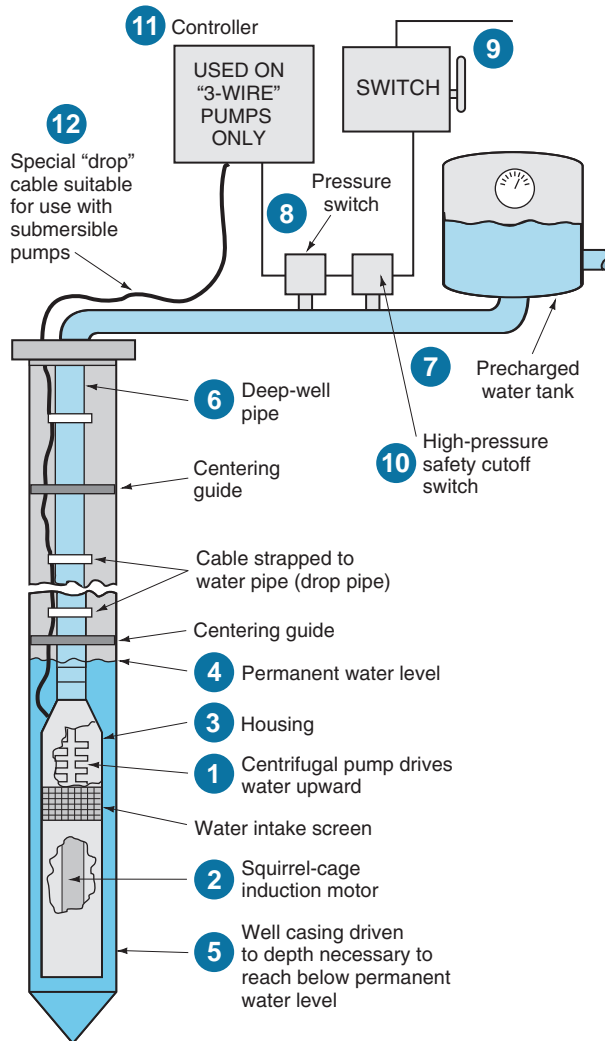
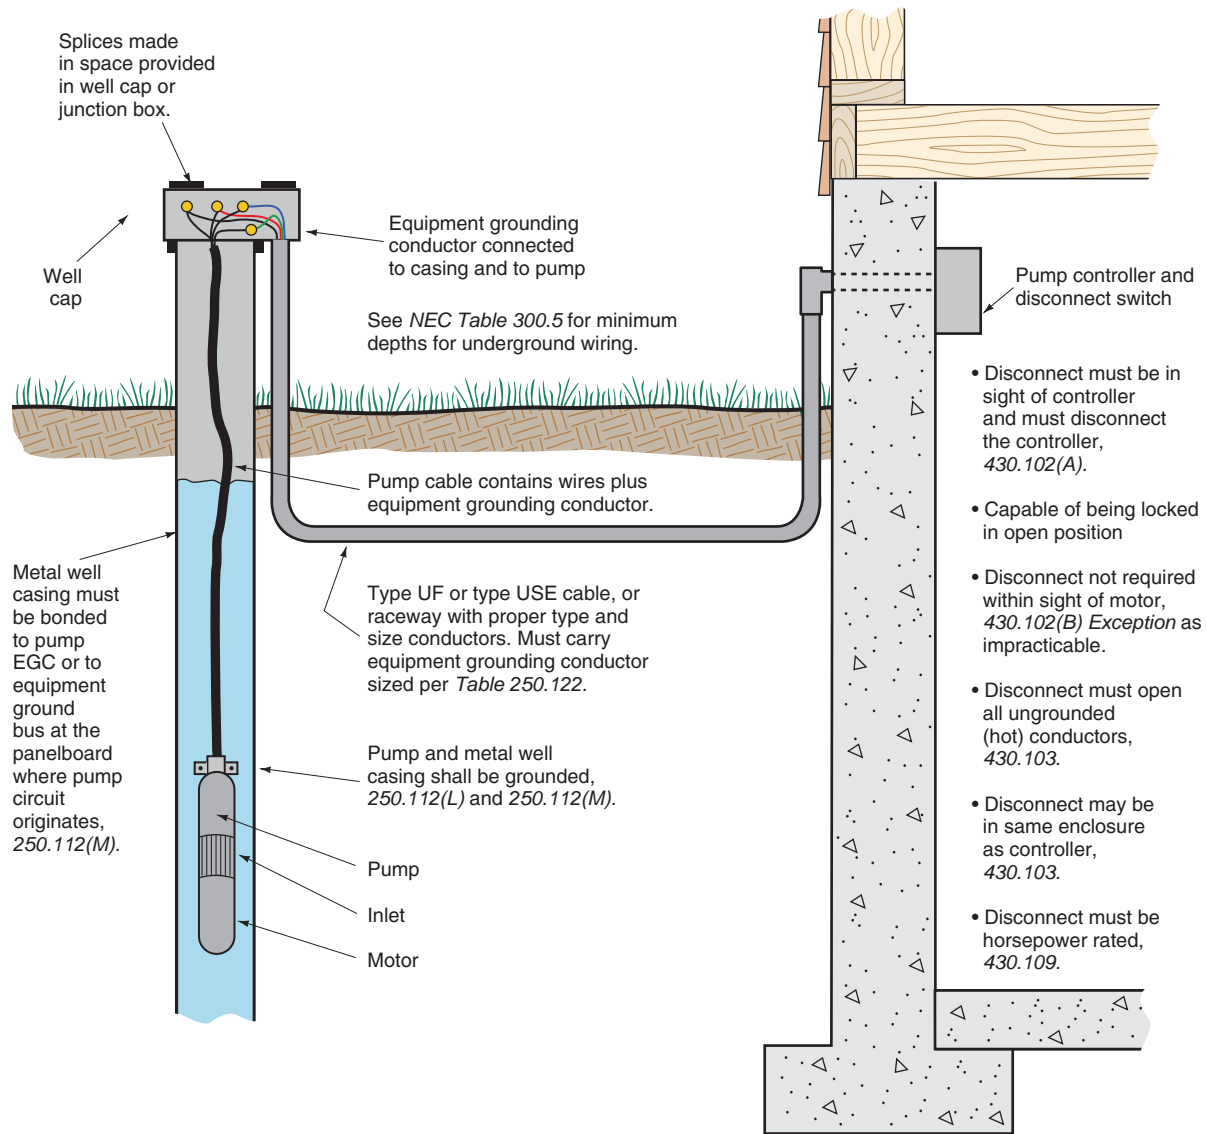

FIGURE 19-3 Submersible pump.
FIGURE 19-4 Grounding and disconnecting means requirements for submersible water pumps. (Delmar/Cengage Learning)
Figure 19-3 shows the major components of a typical submersible pump.
Power to the motor is supplied by a “drop” cable, ⑫, especially designed for use with submersible pumps. This cable is marked “submersible pump cable,” and it is generally supplied with the pump. This cable can also be purchased separately. The cable is cut to the proper length to reach between the pump and its controller, as shown in Figure 19-3, or between the pump and the well cap, Figure 19-4. When needed, the cable may be spliced according to the manufacturer’s specifications.
pump's circuit underground for any distance, it is necessary to install Type UF or Type USE cable or a raceway with suitable conductors, and then make up the necessary splices in a listed weatherproof junction box, as in Figure 19-4. Chapter 16 covers underground wiring in great detail.
The disconnecting means for the water pump is a 30-ampere, two-pole, 250-volt switch mounted on the wall next to the pump controller. See Figures 19-3 and 19-4.
The disconnect switch for the submersible pump for this residence is located next to and in sight of the controller. It is not in sight of the motor and can’t be, because the motor is located inside the well casing below the water level. Here’s where the *Exception* comes into play. The *Exception* provides that disconnecting means is not required within sight of the motor if such a location is impracticable. The disconnecting means located on the line or supply side of the controller must be capable of being locked in the open position. See Figure 19-4.
Figure 19-4 illustrates how to provide proper grounding of a submersible water pump and the well casing. Proper grounding of the well casing and submersible pump motor will minimize or eliminate stray voltage problems that could occur if the pump motor is not grounded.